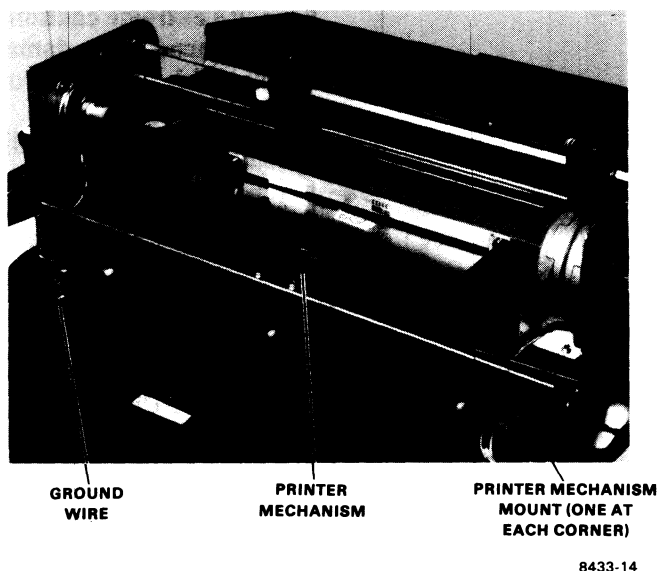

Figure 7-23 Printer Mechanism Removal Preparation
7. Remove the 6-32 screw, fastening ground wire to the cabinet base (Figure 7-23).